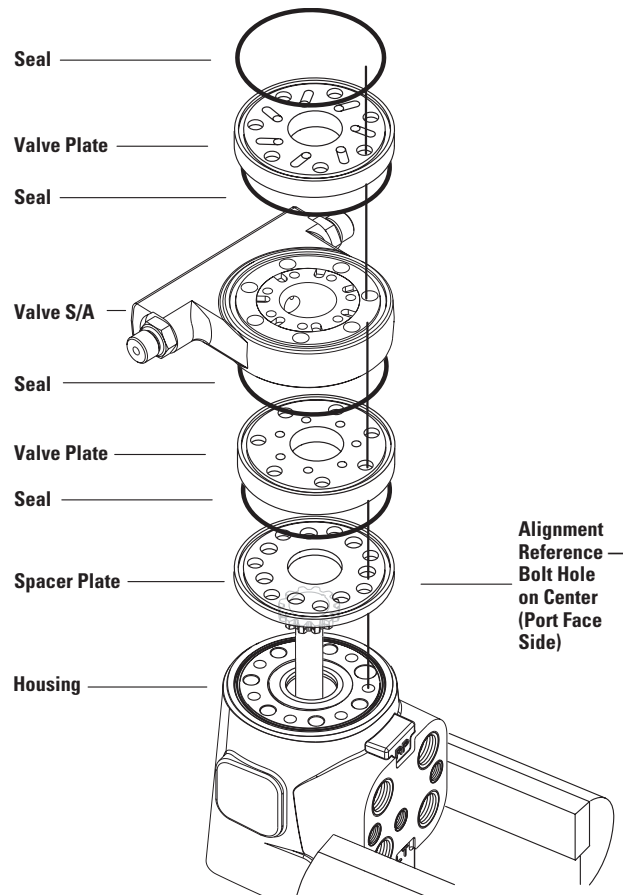

Figure 26
26. Install valve S/A, see figure 26 for correct position.